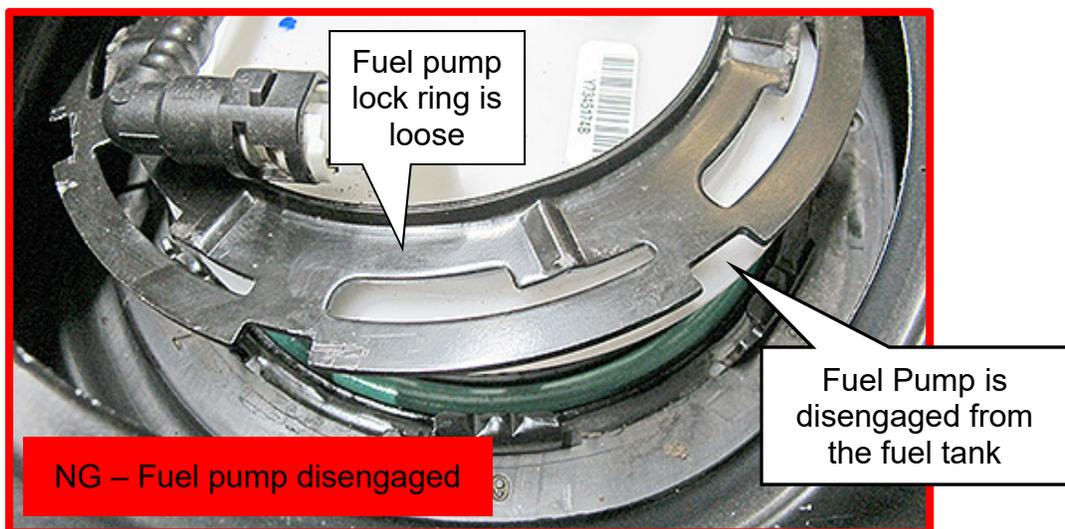

Figure 9
- If the fuel pump is disengaged (loose) as shown in Figure 9, replace the fuel pump assembly and O-ring, and then proceed to step 12 on page 8.